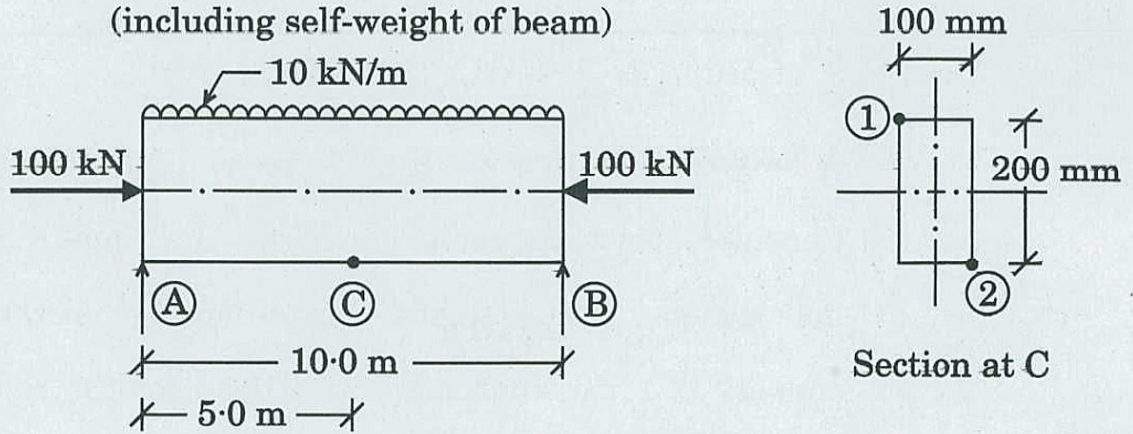

Figure 8(a)(ii)
A simply supported beam of homogeneous cross-section and material is subjected to axial and transverse loads as shown in Figure 8(a)(ii). Calculate the total stresses at points ① and ② of the section C as shown in the figure.